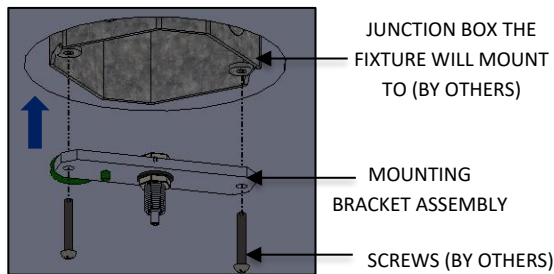

FIG. 22 - MOUNTING BRACKET
- Assemble the MOUNTING BRACKET ASSEMBLY to the JUNCTION BOX the fixture will mount to (by others) with screws (by others) as shown in FIG. 22 below.